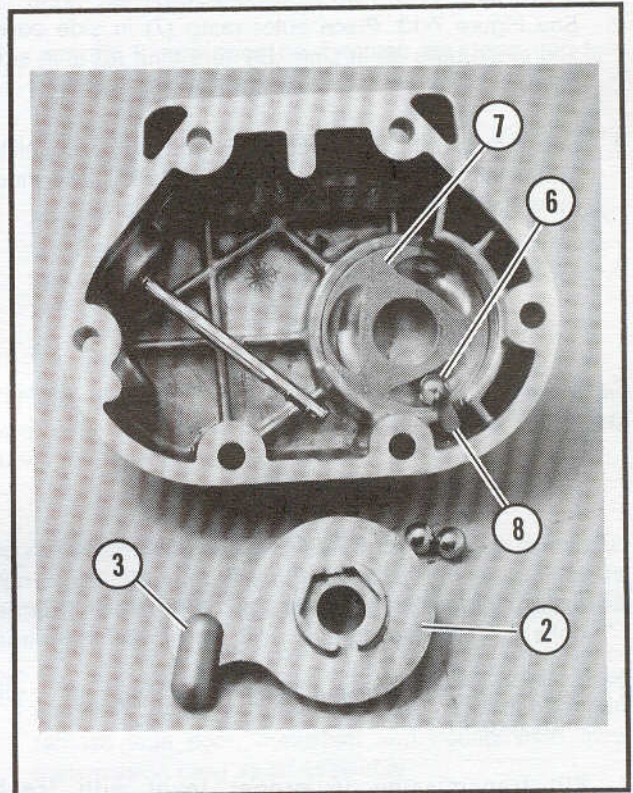

Figure 7-12. Ball and Ramp Mechanism With Inner Ramp and Coupling Removed
See Figure 7-12. Retaining ring opening must be installed to the right of the outer ramp tang (8) slot.